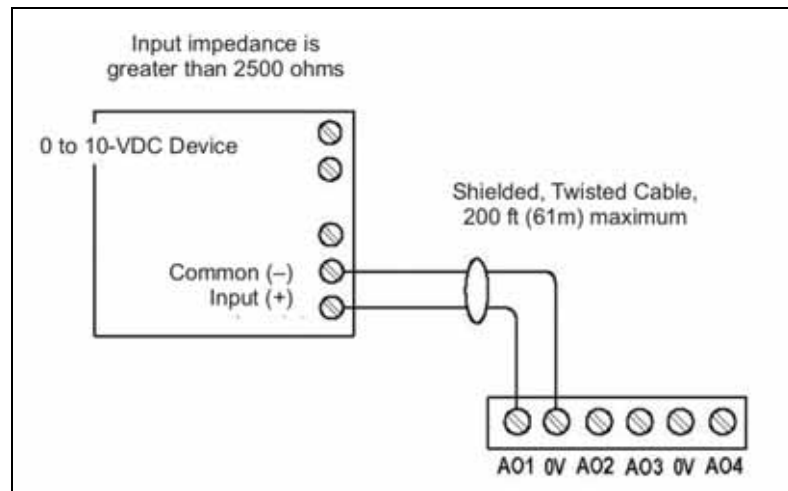

Figure 14. Analog output wiring diagram
Analog outputs (AO) are referenced by the terminals labeled AO and 0V (ground). Each AO can supply a maximum of 4 mA over the entire 0- to 10-VDC range. The minimum input impedance of a device controlled by an AO must be greater than 2500 ohms. Typical AO wiring is shown in Figure 14. For each AO, a VoltageOutputWritable is used in the station database.